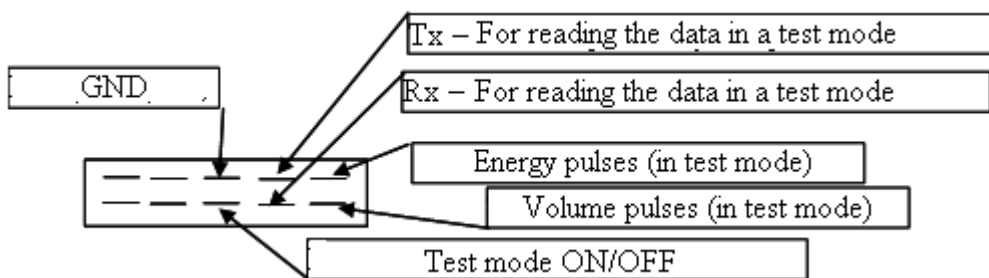
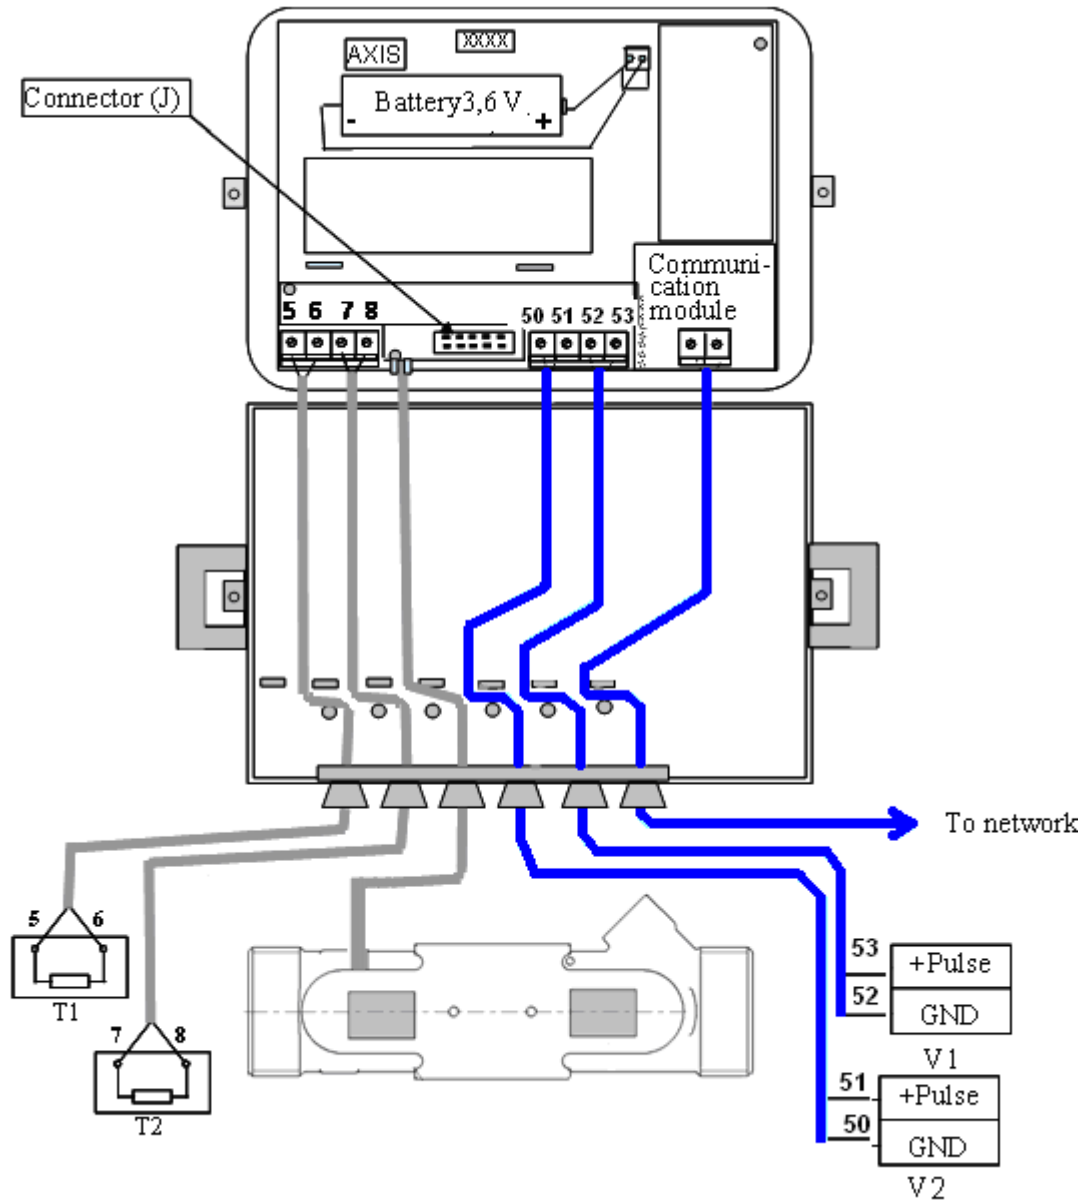

Fig. 6.3. Destination of contacts of connector J
Fig.A1. Electrical wiring diagrams
The 2-line,10-pole connector is on the calculator plate between temperature sensors and pulse input /output terminals (see fig.A1, Annex A). Destination of contacts of connector J is presented in fig. 6.3.
The pulse outputs are active when the corresponding contacts of connector (J) is open (see Fig. 6.3)